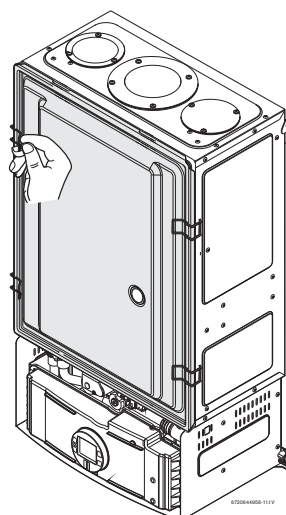

Fig. 5 Remove the combustion cover
- Open the four clips and remove the combustion cover (see Fig. 5).